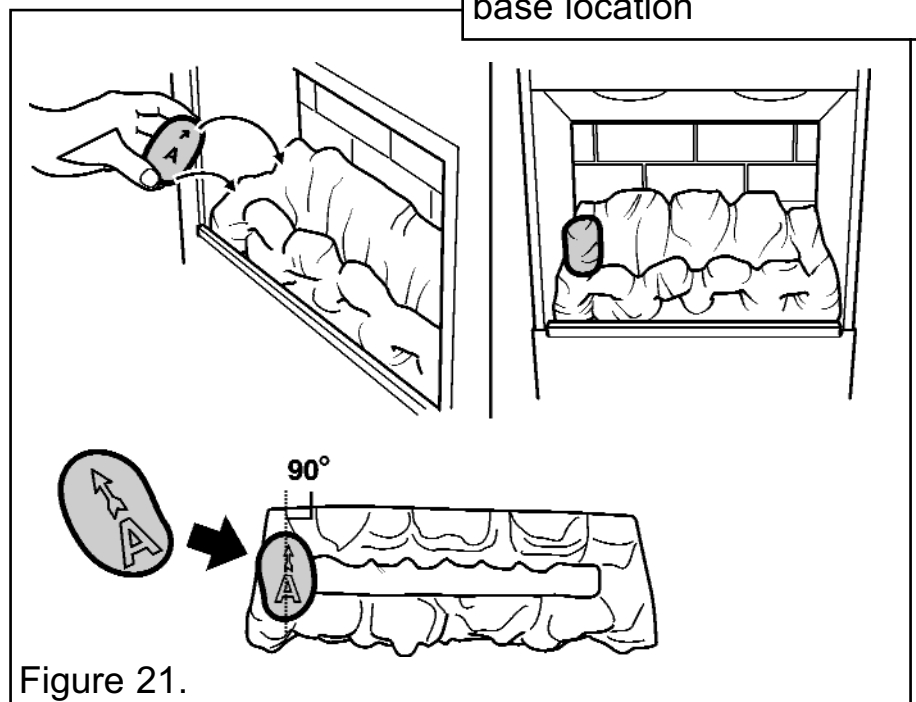

Figure 21.
2. Hold coal 'A' upright with the arrow pointing to the top. Locate coal 'A' as shown in figure 21.